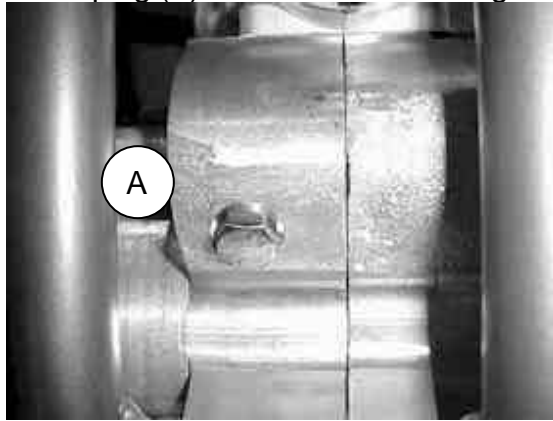

Figure 39
1. Remove the coolant drain plug (A) on the front of the engine case (figure 39).